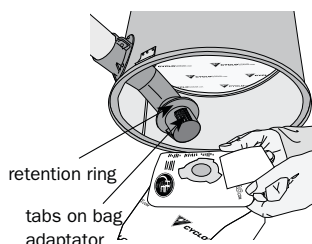

figure 17
3. Install the new bag, ensuring the tabs on the bag adaptor are aligned with the slots in the bag collar (**figure 17**).